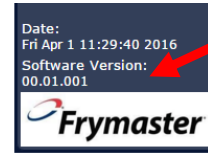

Figure 17
18. Click on Home and ensure software version is correct (see Figure 17).